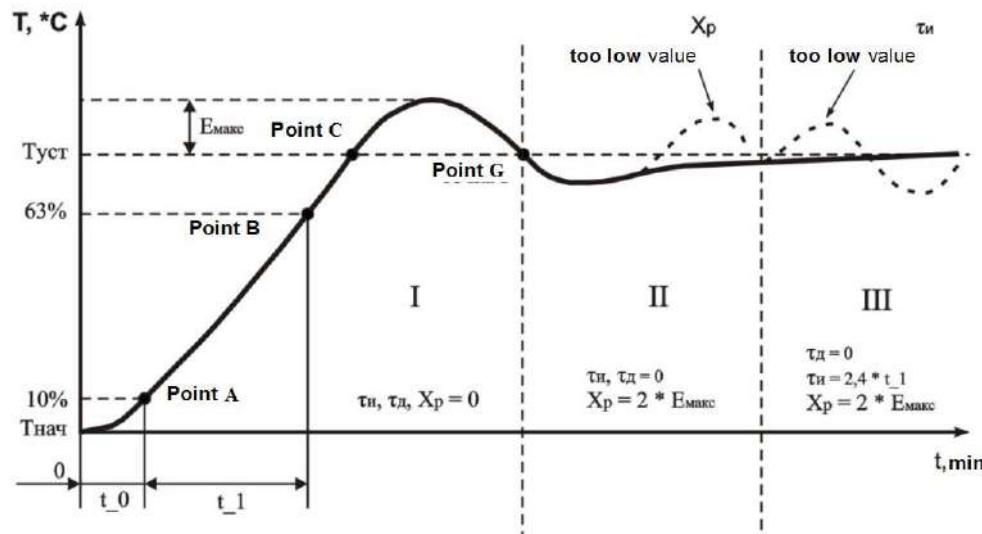

Figure 7.1 - PID regulator manual tuning
After switching off loading relay (period I, point B at figure 7.1) sometime the temperature mechanically will be increase further.
As soon as the control temperature will come down low  $SP$  ( $T_{yct}$ ), process automatic tuning will be finish (point G figure 7.1) and to display device display continuous lettering “ $P \bar{C} d$ ”.
After passage to mode regulation (at the end of 20 seconds the device automatically pass into mode regulation) output relay of loading will be power on till fail to reach regulation temperature (setting limit)  $T_{yct}$  (period I, point B into figure 7.1)
7.2.5.3.4 Take measure  $t_1$  – time from the moment of temperature increase to 10% (point A at figure 7.1) and to the moment of temperature increase to 63% from the range  $T_{yct}$  –  $T_{max}$  (point B at figure 7.1).
7.2.5.3.6 Take measure of maximum value overshoot between points B and G (Емакс. figure 7.1).
7.2.5.3.7 Fix the value  $X_p = 2 * E_{max}$  (period II at figure 7.1).